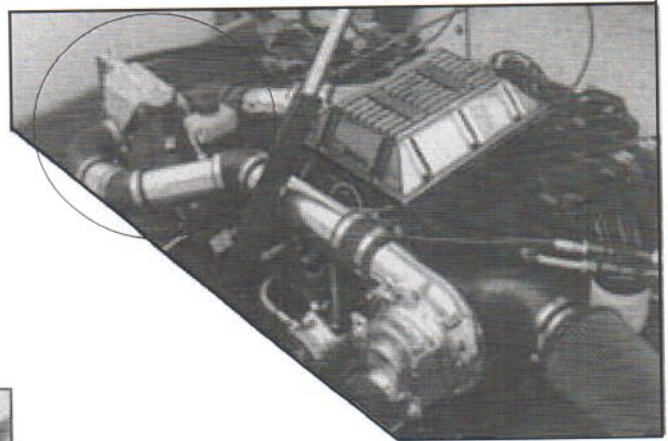

FIGURE D2
1. Review figures D2 - D4 before proceeding. Determine the location where you would like to mount the intercooler. The intercooler has several mounting tabs, find a place where these may be utilized, it should be out of the way of the engine, sitting close to the level of the ProCharger outlet. Ideally, it should be kept somewhat near the engine to minimize the distance the charge air has to travel, minimizing the number of bends it has to make (Refer to figure D2) for an example. After you have determined the ideal mounting location, fasten the tabs to the mounting surface. A straight section of strap has been provided for fabricating mounting brackets. At the bottom of the intercooler is another tab. Bend and drill the strap so that it may be bolted to the bottom tab and to another mounting surface.